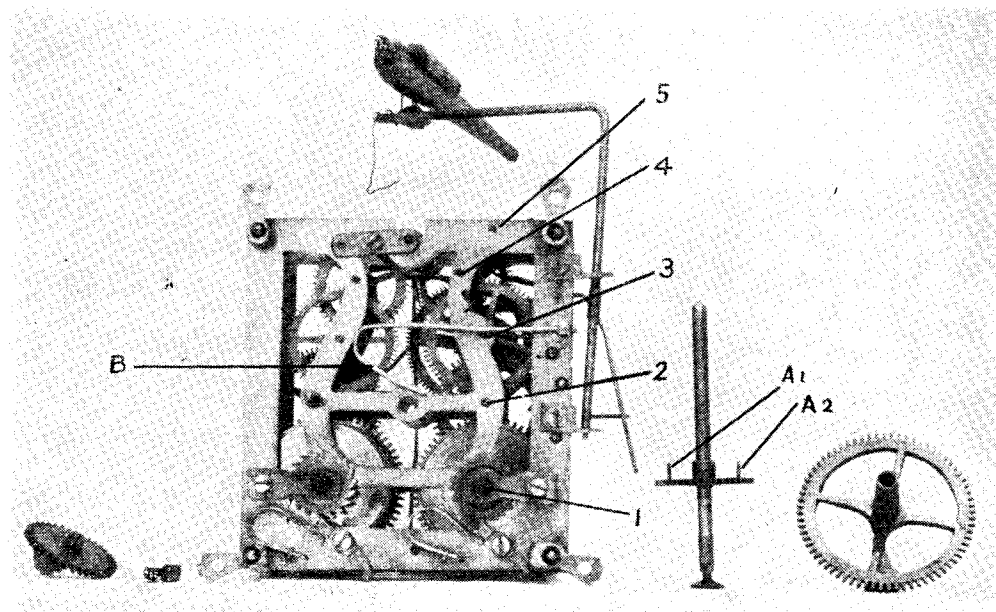

Fig. 3. The cuckoo clock partly dismantled
Referring to Fig. 3, and starting from the spring barrel (1) the first wheel (2) has seven pins and it